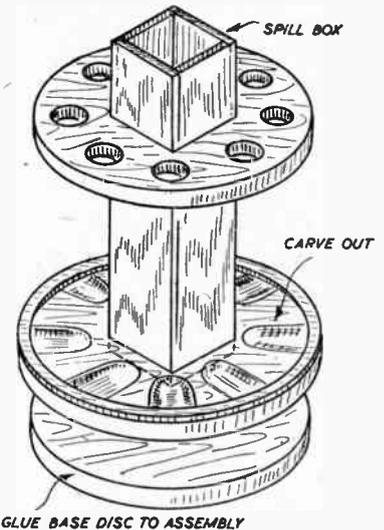

Fig. 4—The completed article
The lower end of the spill box is finished flush with the bottom surface of the lower disc, and to this is now glued the base disc to complete the assembly (Fig. 4). All sharp edges may be rounded off by glasspapering, if desired, and the whole article should be given a stained finish. (326)